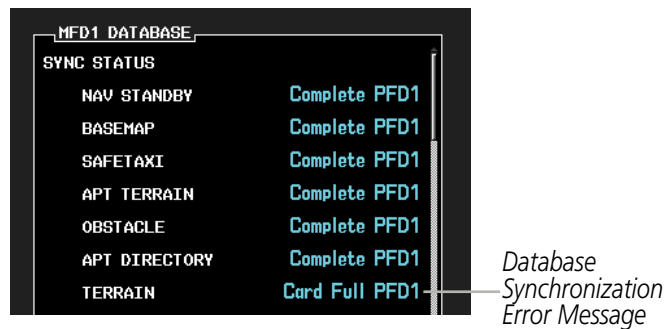

Figure B-6 Synchronization Error Message
If an error occurs during the synchronization, an error message will be displayed, followed by the affected display in the Sync Status section of the Database Window (Figure B-6). If a synchronization completes on one display, but an error occurs on another, the error message will be displayed with the affected display listed after it. When an error message (Table B-1) is displayed, the problem must be corrected before the synchronization can be completed. A power cycle is required to restart synchronization when ‘Card Full’ or ‘Err’ is shown.
- 9) Monitor the Sync Status in the Database Window. Wait for all databases to complete syncing, indicated by 'Complete' being displayed as seen in Figure B-6.